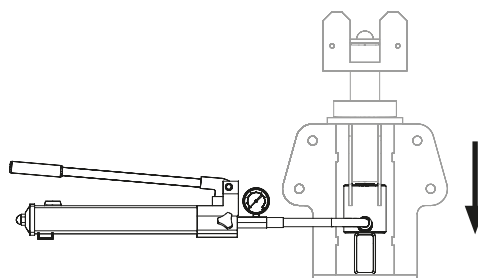

Fig. C2.03d
6. Release pressure from the hydraulic cylinder (50.1). (Fig. C2.03d)
8. Remove the Head Spindle Tube ATS (73).
9. Adjust the height for all four head spindles (2).